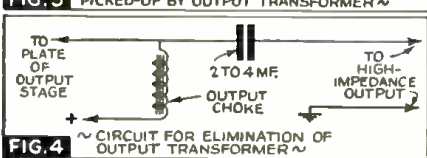

FIG. 4 ~ CIRCUIT FOR ELIMINATION OF OUTPUT TRANSFORMER ~
(2) The proximity of the speaker to the power transformer may produce mutual interference. That is, stray flux lines from the transformer may pass through the magnetic structure of the speaker, or through the voice coil, as outlined under (1). The chances are, however, that the transformer will interfere with the speaker by diverting some D.C. flux through the transformer and chassis. This will, of course, reduce the efficiency of the speaker. The exact reduction in efficiency, however, will depend upon the construction of the speaker and the proximity of the magnetic material to the speaker.
(3) It is necessary to use the output transformer secondary if you are coupling from the plate circuit of a tube to a low-impedance voice coil, as this is the only method of obtaining an efficient impedance transformation. If, however, you desire to couple from the plate circuit to another high-impedance device having an impedance nearly equal to the impedance of the output circuit, then you may use an arrangement, as illustrated in Fig. 4. This arrangement is sometimes employed for coupling the output stage to a crystal loudspeaker.
(4) An absolutely humless amplifier can easily be built. The simplest way of attain-